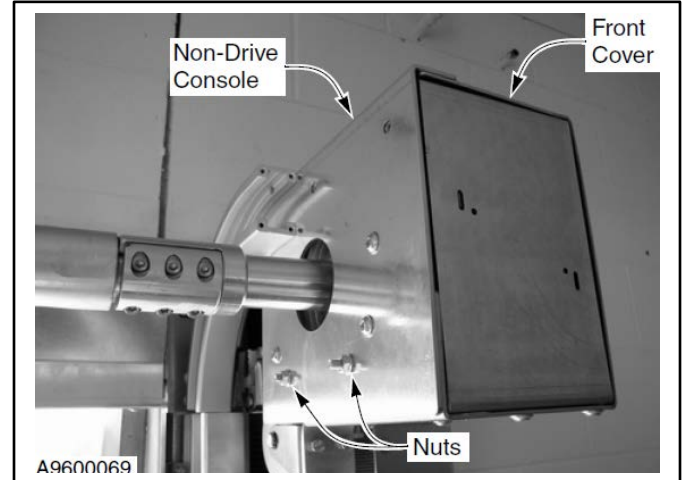

Figure 42
2. Loosen the two nuts on the side of the console. (See Figure 42.)